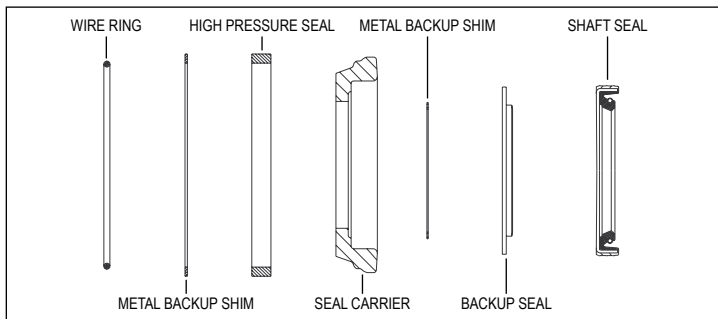

FIGURE 1
- E)** Place shaft (27) on a clean flat surface with output end facing up. Place thrust bearing (15) (NOTE: If thrust bearing has integral washer, make sure washer surface faces down) over the shaft. Then thrust washer (14) on shaft (See Technical Bulletin PI444004 to determine correct thrust washer to use). Lightly coat seal area of shaft with clean oil and place plastic installation sleeve with shaft seal (7) down onto shaft covering all splines, keyways and wire ring grooves. Slide shaft seal (7) down onto shaft (27) making sure that lip on seal faces down (See Figure 1 for correct seal orientation) until it contacts thrust washer (12). Remove plastic installation sleeve. Carefully install the backup seal (6) onto the shaft (27) with the flat side up and the seal lip facing the shaft seal (7). Place the metal backup shim (5) onto the shaft and against the backup seal (6). Place the seal carrier (13) onto the shaft (large end down) and carefully press the seal carrier (13) down onto the seal assembly using an arbor press and sleeve to compress the seal into the carrier.
- F)** With pilot side facing up, place housing (16) on spacers to raise housing approximately 6,4 [.250] above work surface (NOTE: Spacers should allow shaft to contact work surface). Place shaft/seal carrier assembly into housing (16). Install high pressure seal (4) into groove in housing. Install metal backup shim (3) against high pressure seal (4) in groove in housing bore by squeezing the shim (3) between thumb and forefinger to bow shim. While maintaining bow in shim, start the shim into the groove and use a small screwdriver to push the shim into groove. Install wire ring (2) into the groove, making sure that the ends are butted.
- G)** While holding shaft into housing, place housing/shaft assembly in vise with shaft end down. Making sure that end of drive link (18) with crowned splines goes into shaft end, install drive link (18) into shaft and tap lightly to seat the seal carrier against the wire ring (2). Place thrust bearing (15) over drive link (18). If seal carrier (13) is properly seated against wire ring (2), thrust bearing (15) will be flush with rear surface of housing.
**Housing/Shaft Disassembly And Assembly (Design That Does NOT Utilizes A Seal Carrier (13))**
- H)** Position the housing (16) in vise and use a slide and hammer type bearing puller to remove the rear housing bearing (17). Remove the thrust washer (14) and thrust bearing (15) and set aside. Using a small screwdriver carefully pry the shaft seal (7), backup seal (6) and metal shim (5) from housing bore and discard.
- I)** Turn housing over and remove retaining snap ring (11) from inner core of housing. Turn housing over again. Using a drift punch through the rear of the housing, tap against the inner race of the 72mm bearing (12) to remove the bearing through the top of the housing. Pry dust seal (1) from bearing (12) and discard.